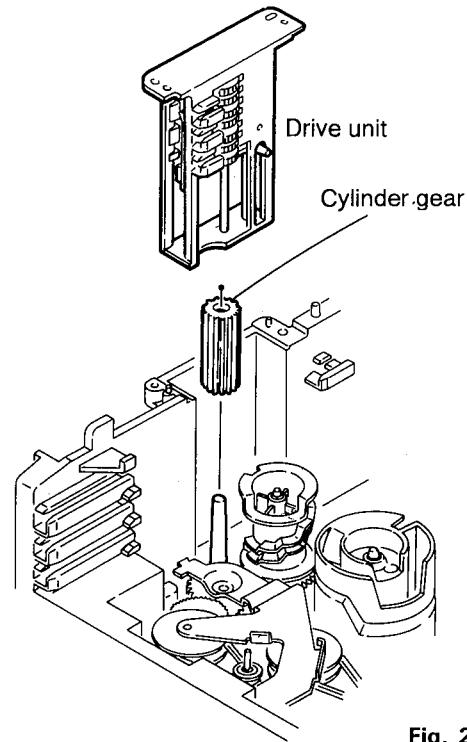

Fig. 2-26
- Pull out the drive unit and cylinder gear (See Fig. 2-26).